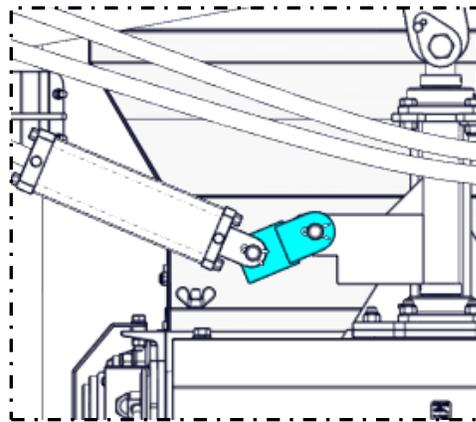

Figure 4.15
- D) The in feed auger is equipped with a free swing mechanism (Figure 4.15). This is used as a safety buffer to prevent damage to machine components by unexpected forces on the lift cylinder due to over-extension on the lift cylinder.